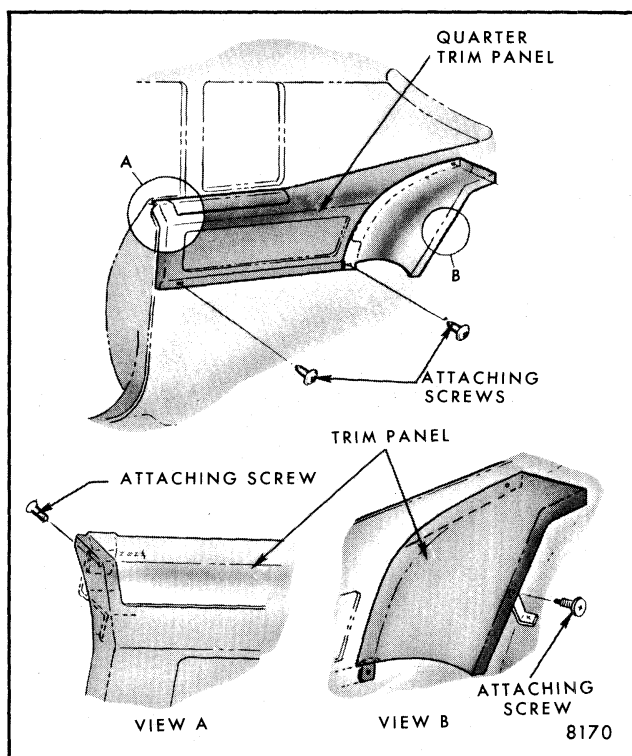

Fig. 6-4-Quarter Trim Assembly Attachment - Cadillac "E-47" Styles
5. On Cadillac "E" styles remove attaching screws at top outboard side of lock pillar and at rear and bottom edges (Fig. 6-4 and 6-3).